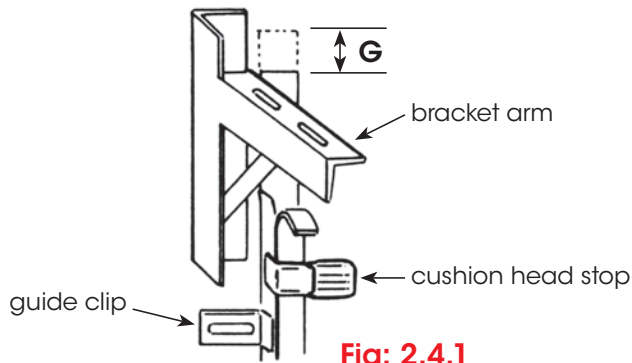

Fig: 2.4.1
- b) Check that guides © are the correct length, that is, starts level with the brackets (or as per table above at position G). (Fig 2.4.1) If guides need to be shortened cut from bottom of guide.